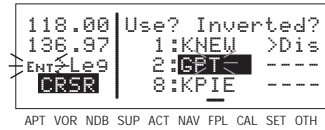

Figure 4-110
- Complete the waypoint entry operation (figure 4-110).